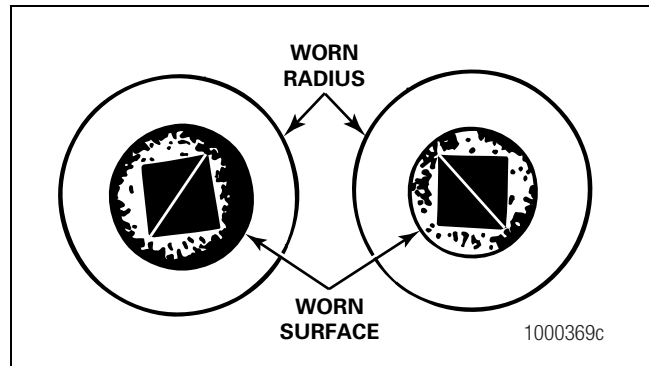

Figure 5.1
- The center of the large diameter end of the rollers is worn level or below the outer surface. Figure 5.1.
- The radius at the large diameter end of the rollers is worn to a sharp edge. Figure 5.1.